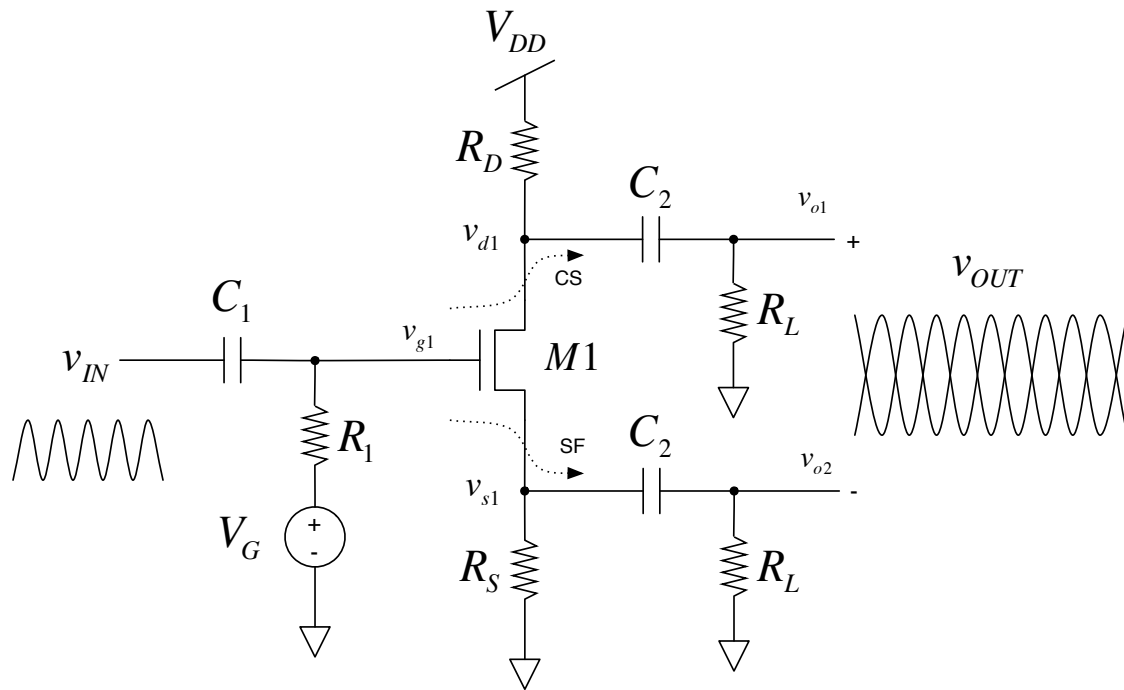

Figure 1: A MOSFET active balun circuit.
Most baluns are made using passive devices – transformers, resistors, inductors, etc. An *active balun* uses an amplifying device like a MOSFET or BJT. A standard MOSFET active balun circuit is shown in Fig. 1. The MOSFET device in this circuit is biased in **saturation**, and **works both as a common-source (CS) amplifier and as a source-follower (SF)**. When considering the signal transferred from v_g to v_{o1} , we have a CS circuit. When considering the signal transferred from v_g to v_{o2} , we have a SF circuit. **To make a good balun, we want the CS and SF circuits to have equal gain, so that the differential output is *balanced*.**
Exercise 1. You will design the active balun circuit of Fig. 1 by choosing appropriate resistor values and bias voltages. Several of the resistances and bypass capacitor values are given in Table 1. The MOSFET $M1$ is an N-type device from the CD4007 package. The characteristics of $M1$ are given in Table 2.
Procedure 1. First construct the active balun circuit of Fig. 1¹. Use the bench power supply to provide $V_{DD} = 10V$, and to provide the desired gate bias voltage V_G . Use the digital multimeter to precisely measure the value of all resistances. Record these measurements in a table in your lab book.